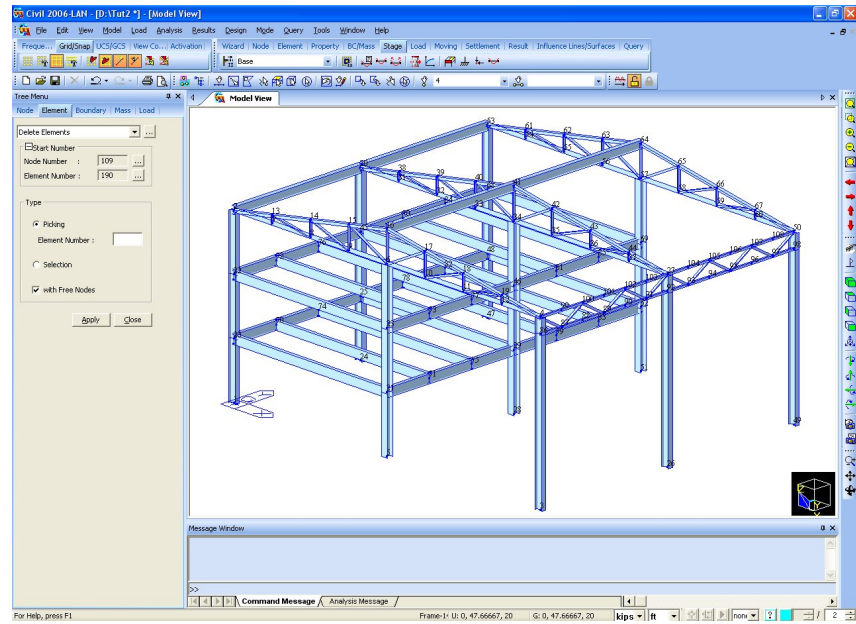

Figure 2.13 Generation of Longitudinal truss
1. Click  **Rotate Dynamic** in the Icon Menu and rotate the model as shown in Fig.2.13.